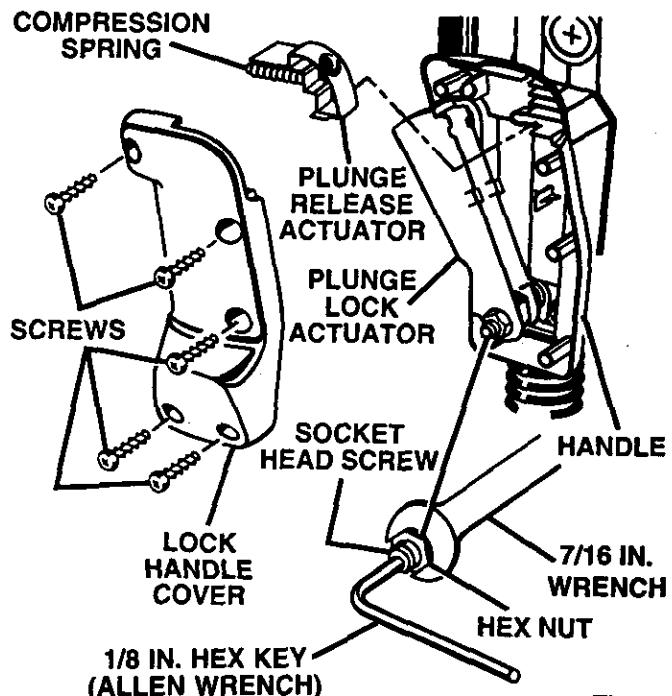

Fig. 25
See Figure 25.
- Remove lock handle cover screws and lock handle cover. *See Figure 25.*